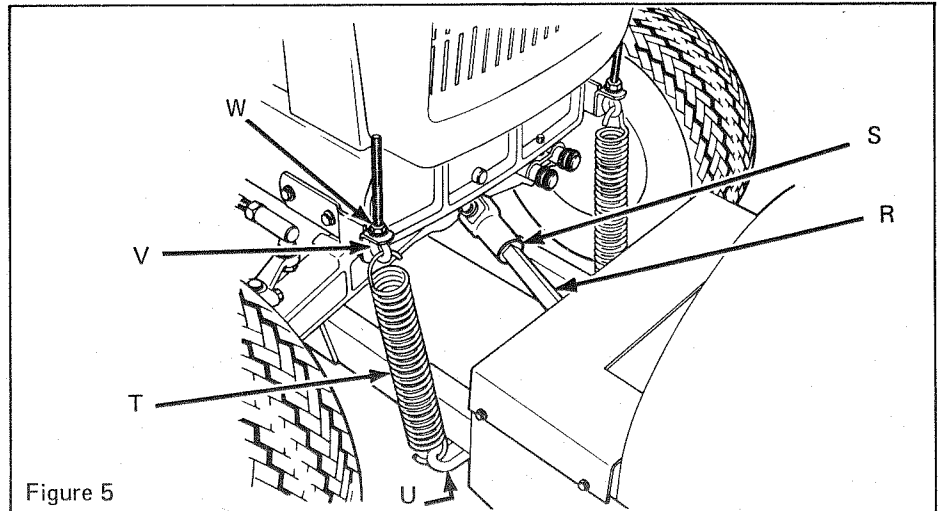

Figure 5
6. Coat rectangular end of drive shaft "R" Fig. 5, with grease. Slide end into rectangular opening of tractor's universal joint "S". Tap key into keyway slot of drive gear case input shaft. Slide other end of drive shaft onto drive gear case input shaft. Line up holes, insert the 1/4 x 2" (6.3 x 50.8 mm) hex capscrew and secure with flat washer and lock nut.
7. On one side of push arm frame hook one end of spring "T", Fig. 5, into anchor